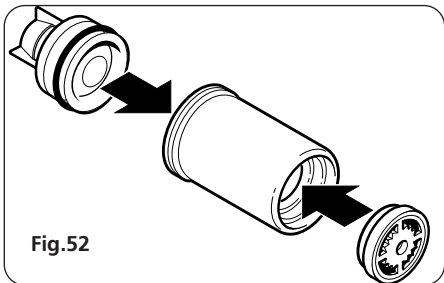

Fig.52
- 8 Replace the flow limiter and check valve into the sleeve ensuring they are in the correct way (fig.52).